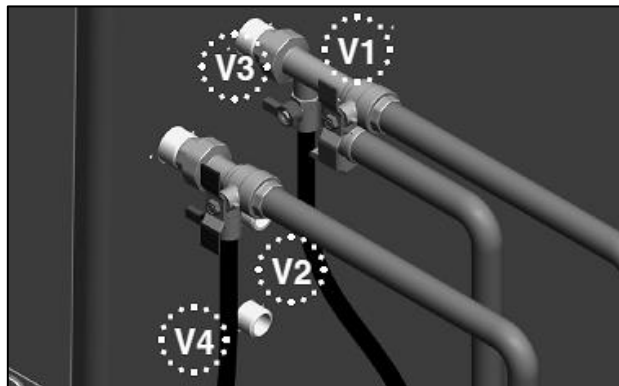

Figure 53 – Valve Detail
2. Close the shutoff valves on both hot water outlet and cold water inlet lines (V1 and V2). See Figure 53.